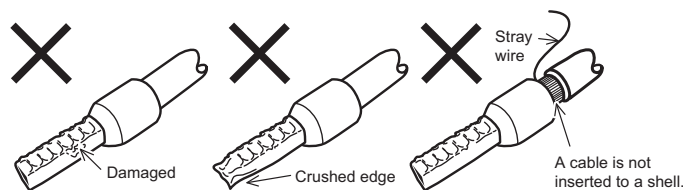

Figure 5.23 Example of incorrect bar terminal crimp
- 4) Check an appearance of the bar terminal after crimping it. Do not use the terminal if it is not crimped properly or the side is damaged (refer to Figure 5.23).